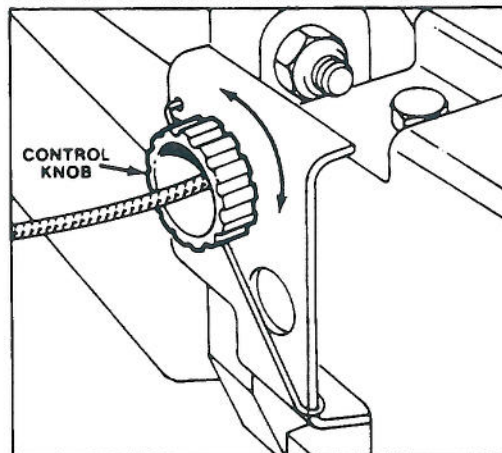

Figure 17
2. **ADJUSTMENT** (Fig. 17) — Rotate control knob clockwise 1/2 turn if mower does not self-propel. If mower creeps forward, rotate knob 1/2 turn counterclockwise to loosen belt.